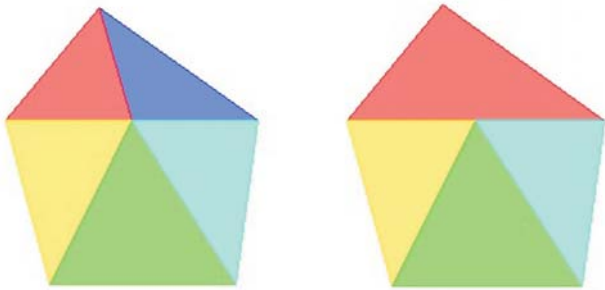
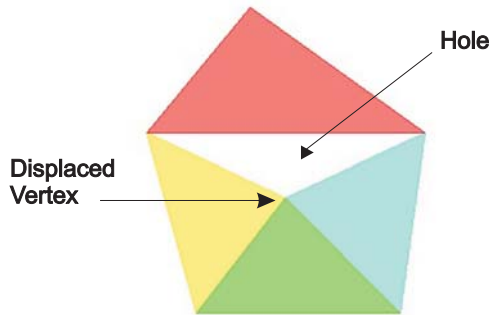
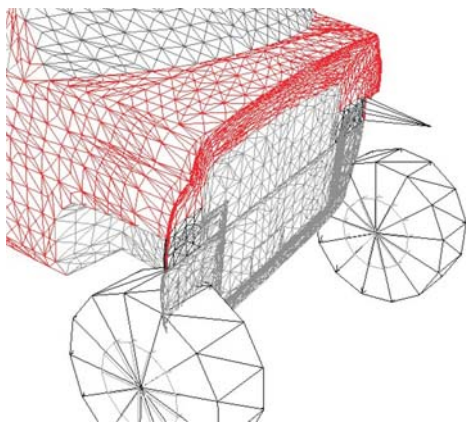

Figure 2 - Watertight mesh (left) and non-watertight mesh (right).
Figure 3 - Displacing the vertex in a non-watertight mesh opens up a hole in the mesh.
Figure 4 - Rogue vertex resulting from collision with a barrier having a non-watertight mesh.
*DyMESH* assumes that meshes are *watertight*. A watertight mesh is one in which each neighboring polygon shares its vertices. For example, the mesh shown on the left in Figure 2 is watertight, while the mesh on the right in Figure 2 is not watertight. Note what happens when the vertex in the non-watertight mesh is displaced: the mesh opens up, resulting in a hole (see Figure 3). This hole represents a region through which a vertex on the other vehicle may pass. If that occurs, the vertex will not find contact with any surface, so it will remain undeformed (see Figure 4). The Technical Staff at EDC calls this a *rogue vertex* (because it misbehaves!). A collision simulation that results in spikes in the damage region is a sign that the mesh on the other vehicle is not watertight.